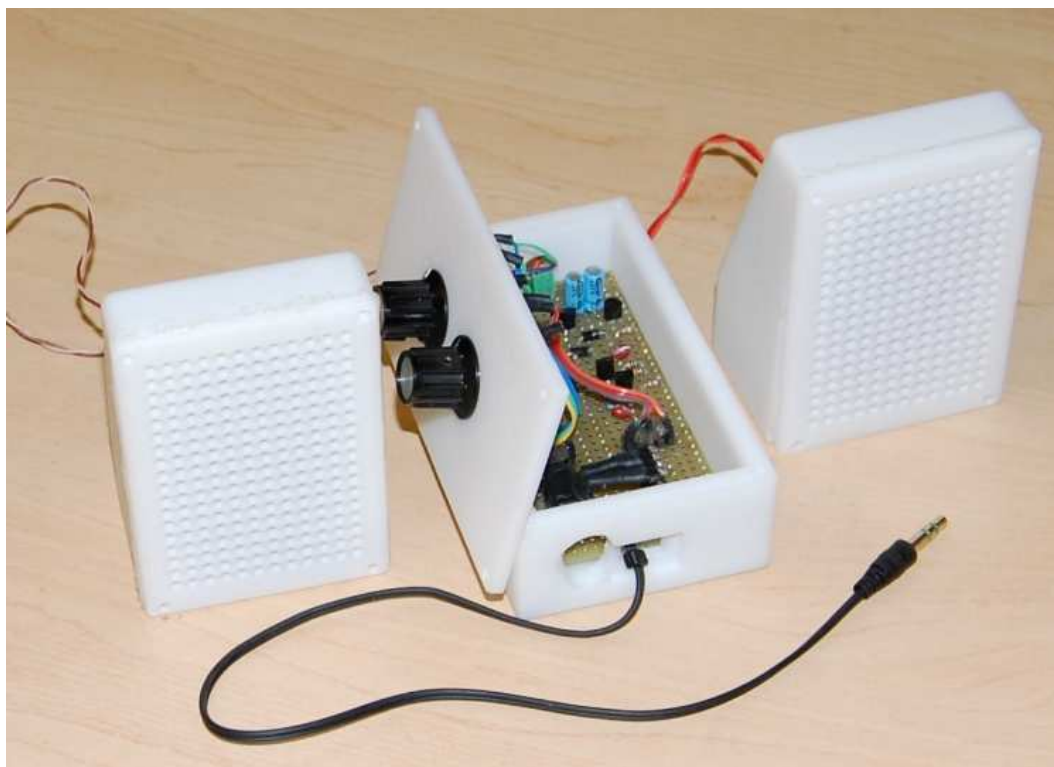
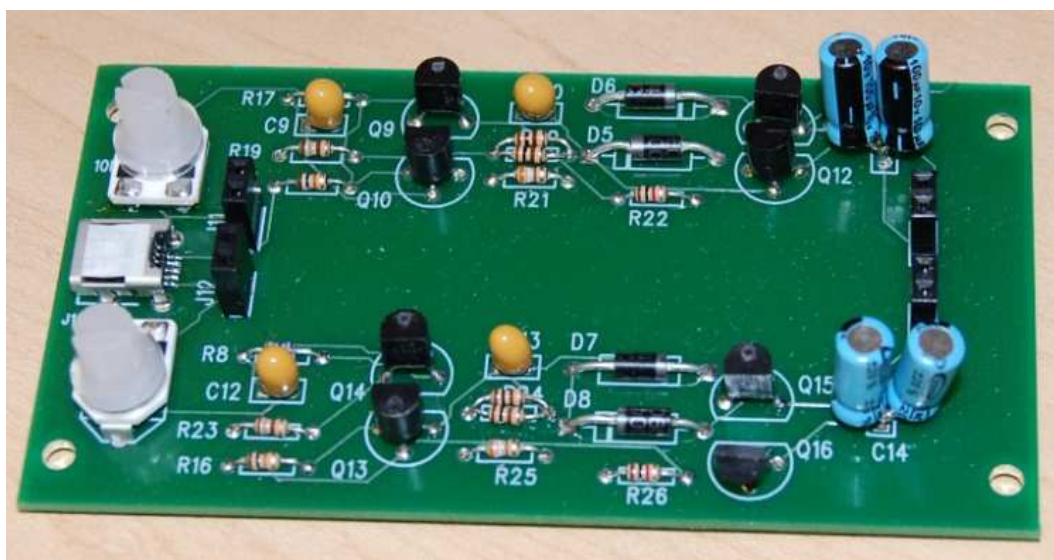

Figure 2: A completed Project with a Student Designed Case
Figure 3: A Student Designed Printed Circuit Board
| Figure 2: A completed Project with a Student Designed Case | 14 |
| Figure 3: A Student Designed Printed Circuit Board | 14 |
5. Project Improvement & Innovation: The laboratory project also requires students to revise their design once it passes basic testing (innovation and critical thinking). After verifying the functionality of the prototype, students are instructed to improve their project. The lab manual provides several possible improvement ideas, such as design of an enclosure, Figure 2, or printed circuit board, Figure 3, and/or adding wireless transmission capability to the project. Innovative ideas are strongly encouraged.